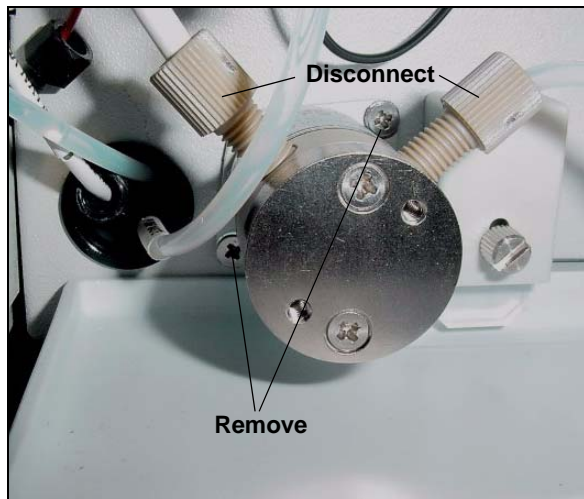

Figure 5-24. Eluent Valve
4. Disconnect the two liquid lines connected to the eluent valve (see Figure 5-24).
5. Unscrew and remove the two screws that attach the valve to the component panel (see Figure 5-24). Save the screws.